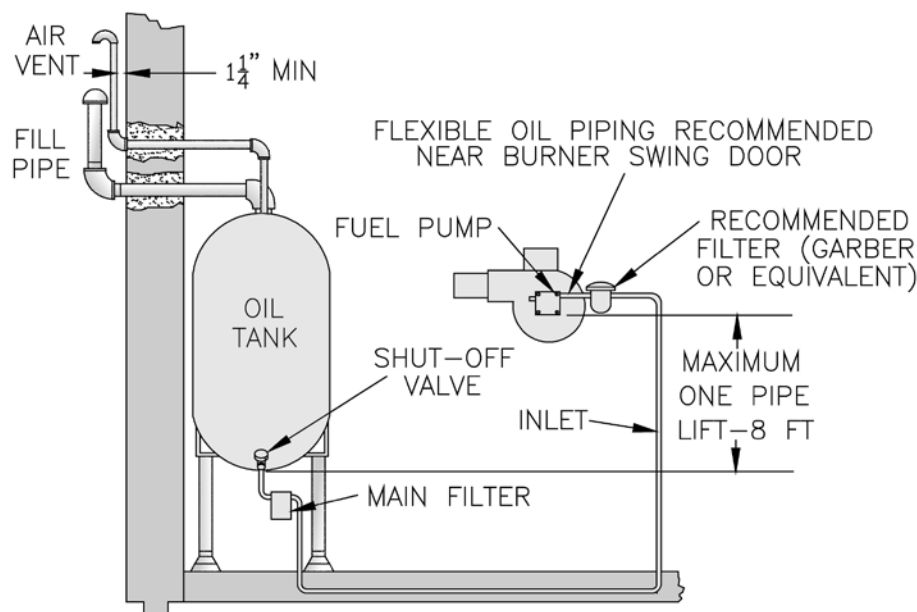

Figure 29: Single Pipe Oil Line
2. The single-stage fuel unit may be installed single-pipe with gravity feed or lift. Maximum allowable lift is 8 feet. See Figure 29.